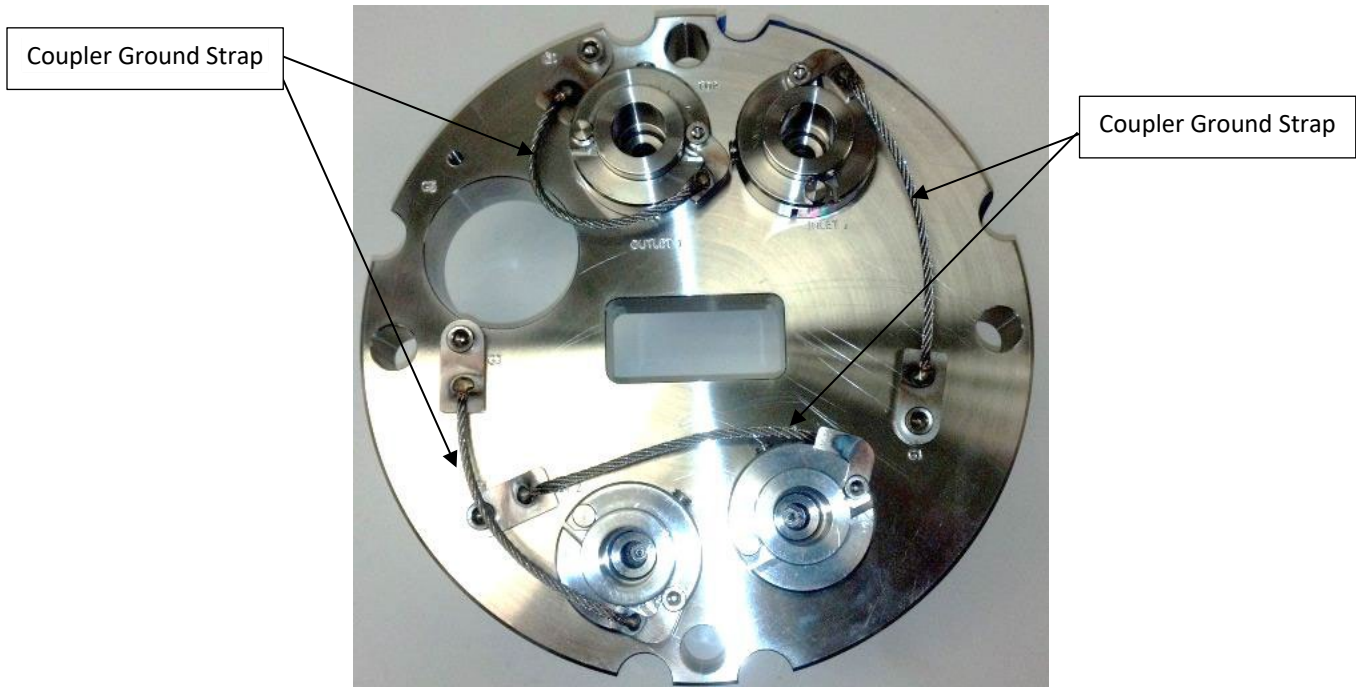

Figure 76: Ground Strap Installation
- 26.5.10 Install ground straps as shown in Figure 76 (dual core LF CIMV/LF CIMV shown). A ground strap is provided for each coupler weldment, connector (if applicable) and receptacle.